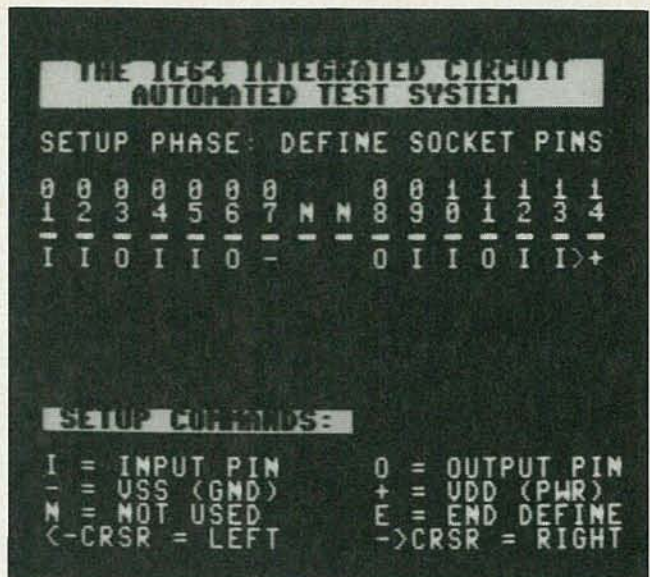

FIG. 5—FIRST STEP IN ANY TEST is to define the function of each socket pin, including the ground and +V connections.
The bottom of the Fig. 4 screen defines the setup commands. As shown in Fig. 5, you identify each pin as an input (I) to the IC, an output (O) from the IC, a ground pin (-), or a voltage-supply pin (+). A pin that will not be used, or a pin where you do not particularly care what happens, is identified with an N or left blank. As an example, the pin identification for a 7408 TTL quad 2-input AND gate would be: